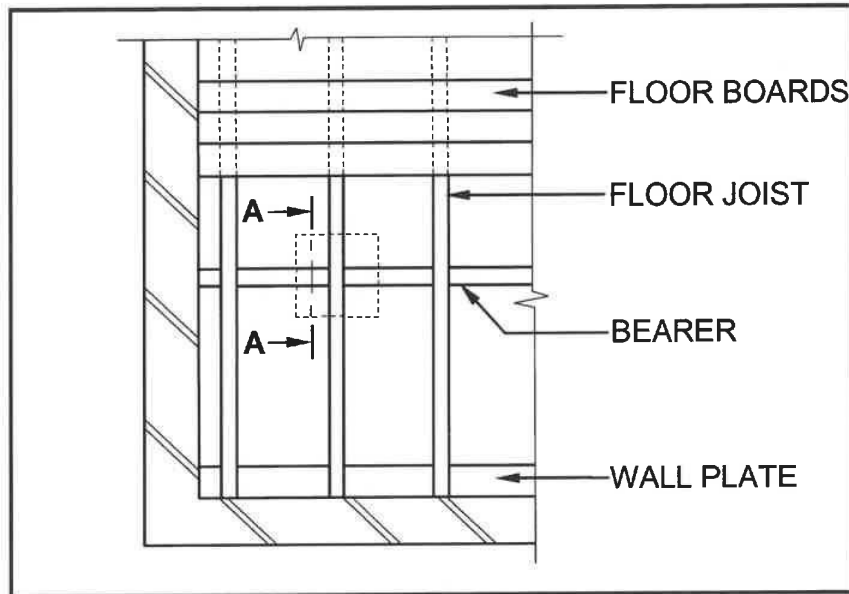

FIGURE 6.7
- 6.7 FIGURE 6.7 shows part of the top view of a ground-level suspended timber floor with section line **A-A**.